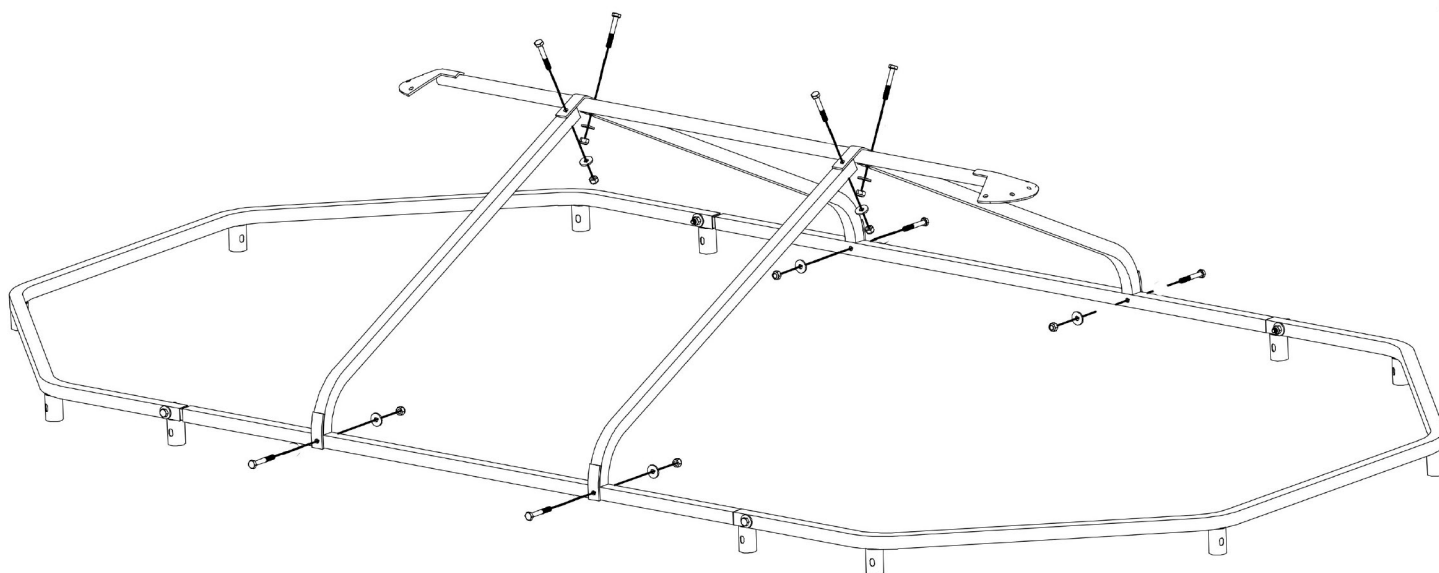

Figure 3.
Step 3. Assemble the four front and rear roof ribs to the roof main frame and the roof ridge using eight $\frac{1}{4}$ x 1-3/4" socket head bolts, eight washers and eight nuts. **Place washers under the nuts only, none under head of bolt as seen in Figure 3.** Snug the nuts but do not tighten them at this time.